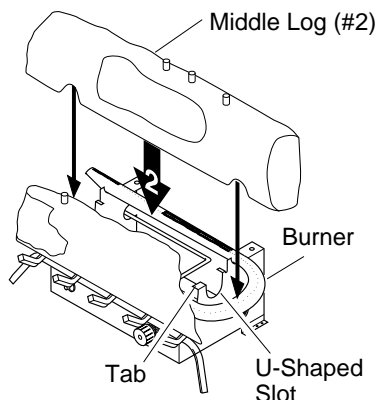

Figure 28 - Installing Middle Log (#2)
2. Place the base of the middle log (#2) in the U-shaped slots of the grate base. The cutout on the right of the middle log should fit over the burner (see Figure 28). Make sure the front of the middle log is resting on the tabs of the grate base.